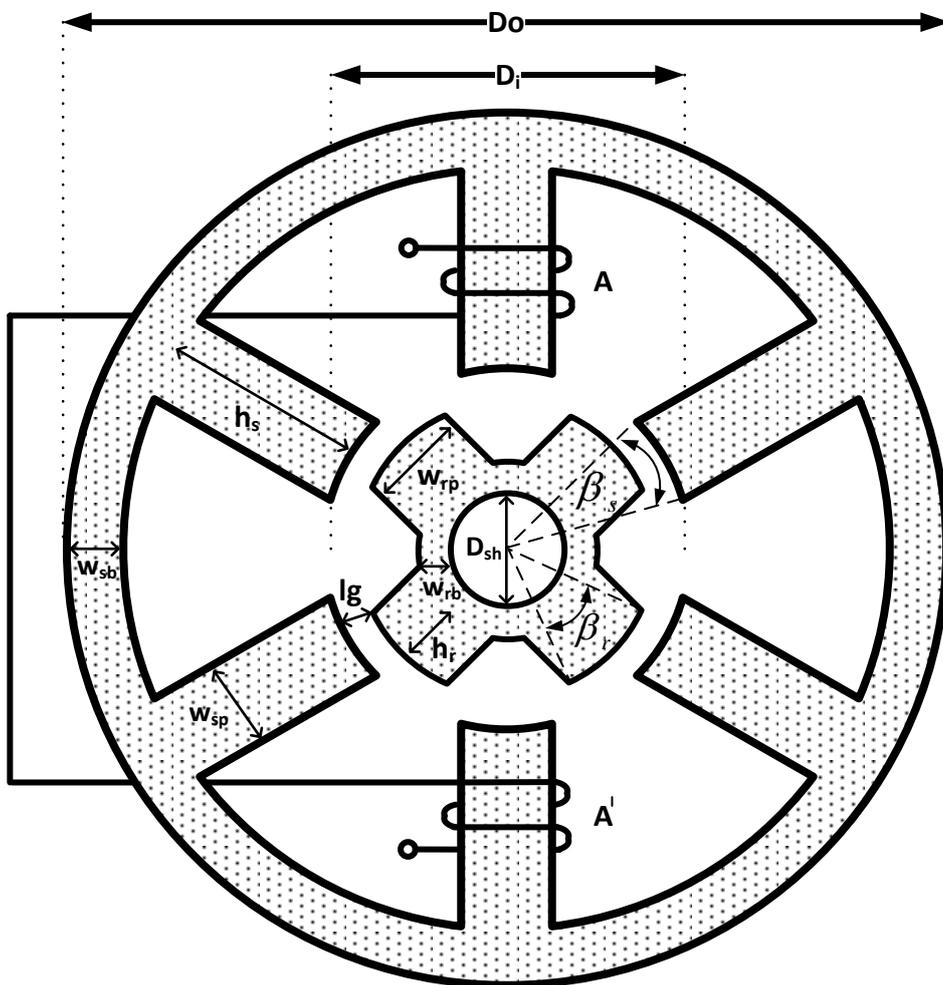

Figure 1: Cross section diagram of a SRM
5. Figure 1 shows the basic diagram of a SRM. Answer to the following questions